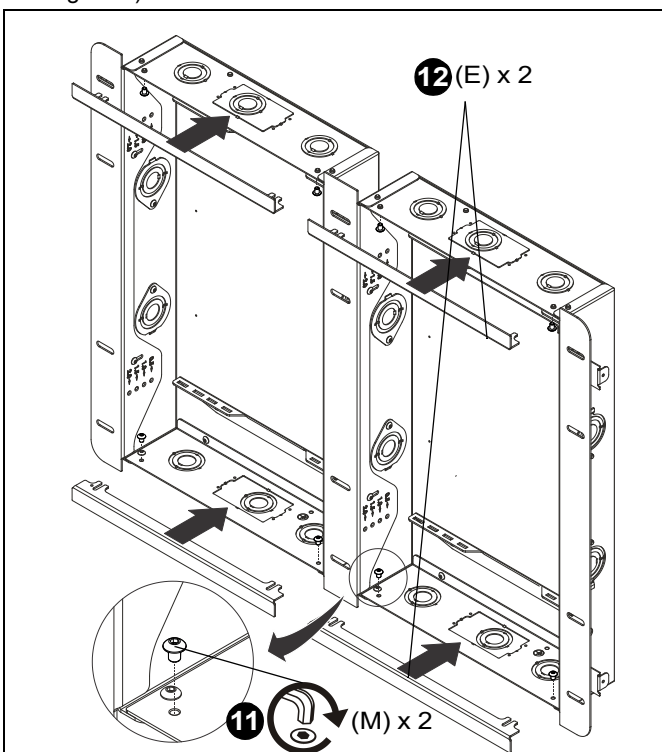

Figure 6
11. Loosely install four #10-24 x 1/4" button head cap screws (M) into open holes in each corner of boxes. (See Figure 6)
12. Slide two top/bottom flanges (E) under screws installed in Step 11 at top and bottom of each box. (See Figure 6)
4. Loosely install four #10-24 x 1/4" button head cap screws (M) into open holes in each corner of boxes. (See Figure 6)